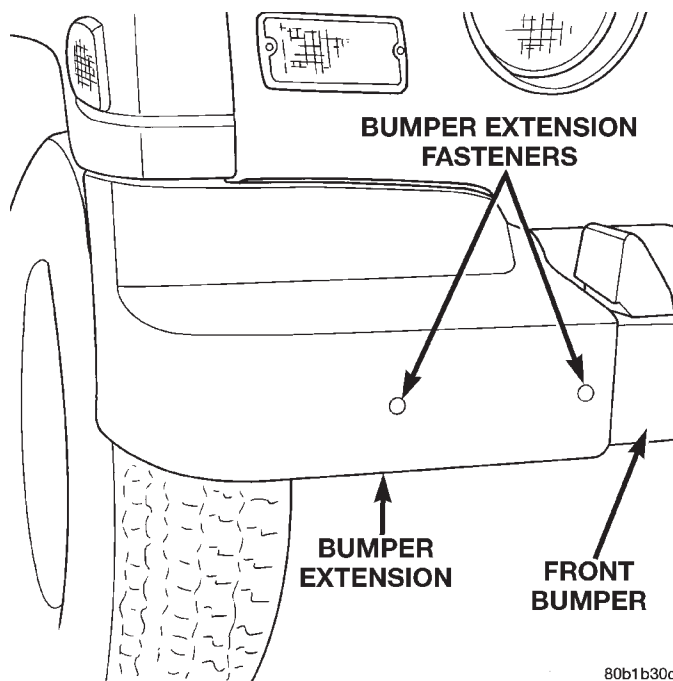

Fig. 2 Front Bumper Extension
- (1) Remove the front bumper extension attaching screws (Fig. 2).
- (2) Remove the front bumper extension.